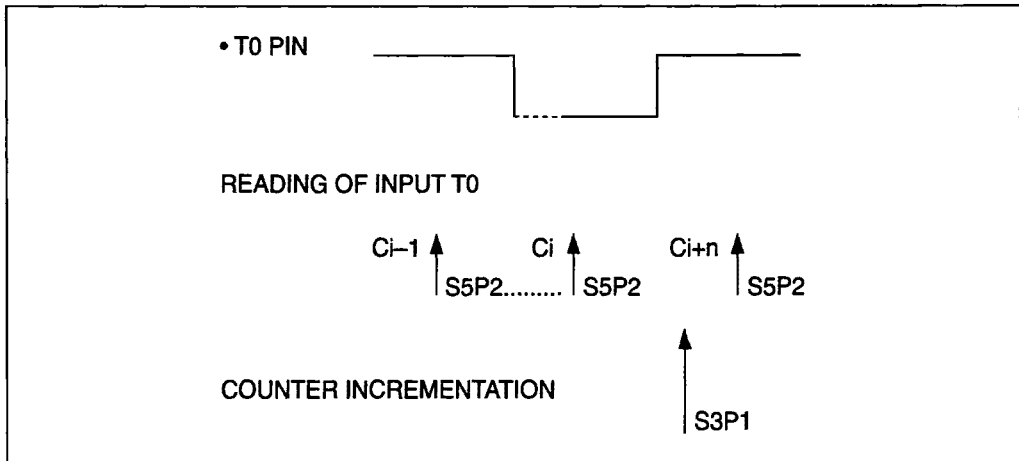

Figure 14 : Counter Incrementation Condition.
- In this mode, $T32 = 0$ and $C/\overline{T0} = 1$. Before it can make an increment, the 83C154 must detect two transitions on its T0 input. As shown in figure 14, input T0 is sampled on each S5P2 state of every machine cycle or, in other words, every $OSC + 12$.